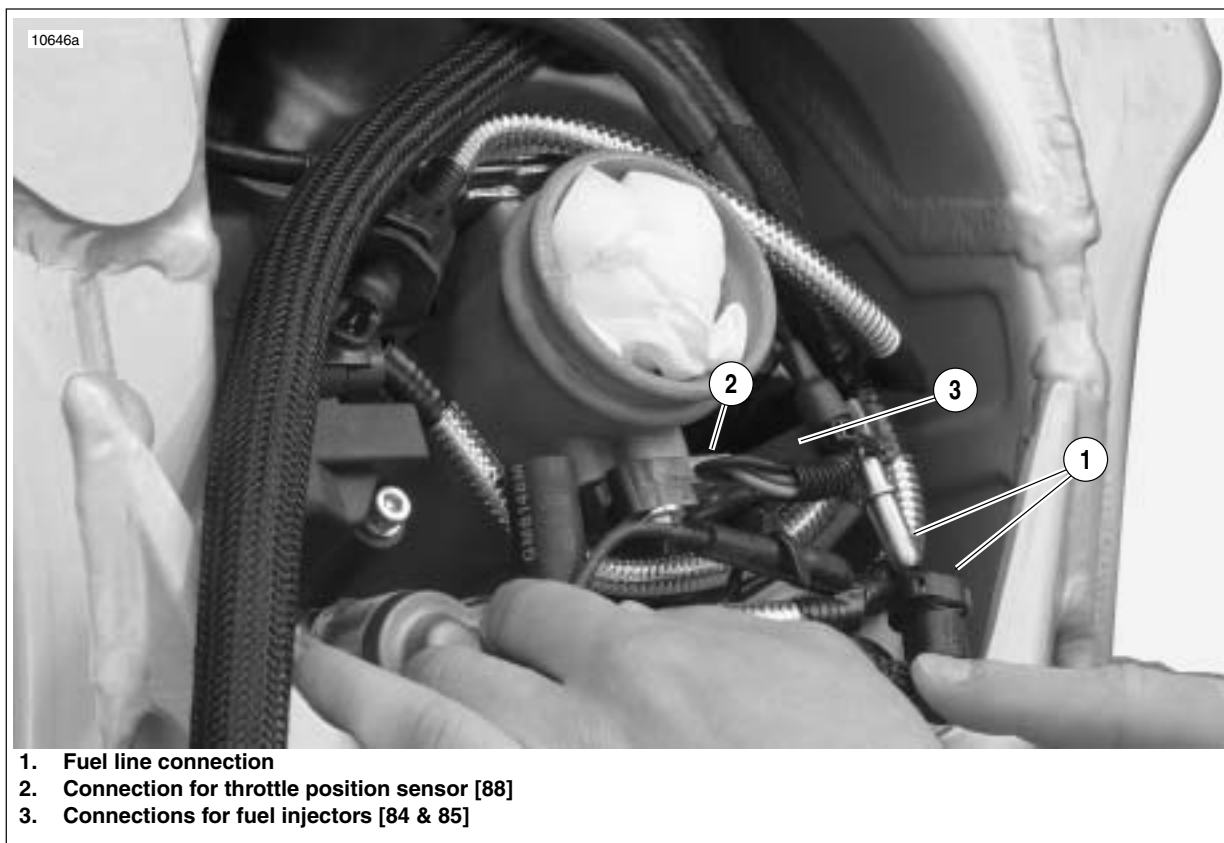

Figure 3-12. Fuel Line and DDFI Electrical Connections (Typical)
13. See Figure 3-12. Connect throttle position sensor (2) [88].
14. Connect fuel injector leads (3) [84 & 85].
15. Connect fuel line (1).